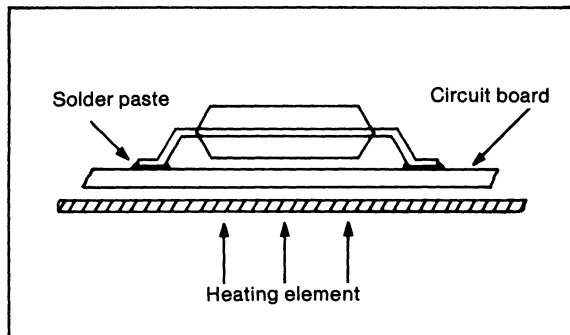

Fig. 3 Diagram showing reflow-system soldering
- (1) Use a reflow method such as that in Fig. 3 to keep the temperature as low (below 260°C), and the time as short (less than 10 seconds) as possible.